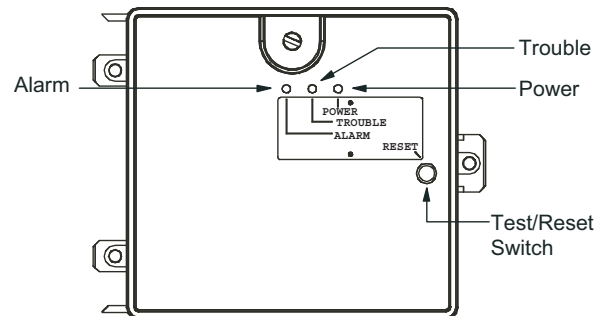

Fig. 49 — Controller Assembly
- The contacts on the controller's supervisory relay switch positions. (See Fig. 49.)